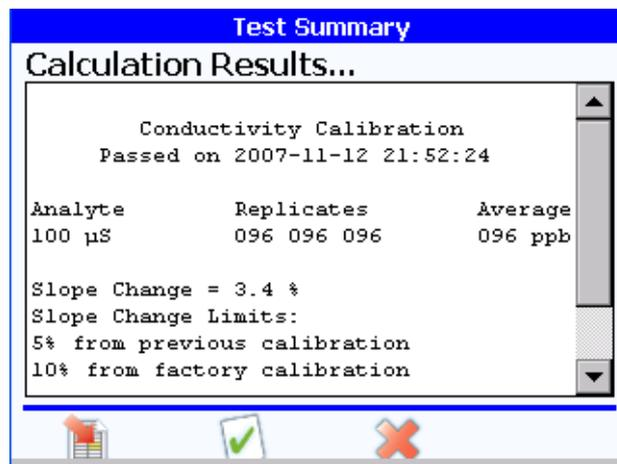

Figure 6-17 Test summary dialog box
- 16) When the calibration is completed, the test summary dialog box appears, with the results of the calibration and a notification of whether the calibration failed or passed. The results also appear on the printout if a printer is attached. See Figure 6-17.